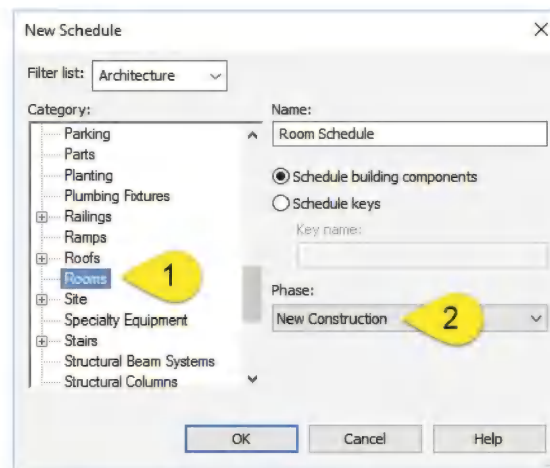

FIGURE 12-3.1 New Schedule dialog
3. Select **Room** under *Category* and then click **OK** (Figure 12-3.1).